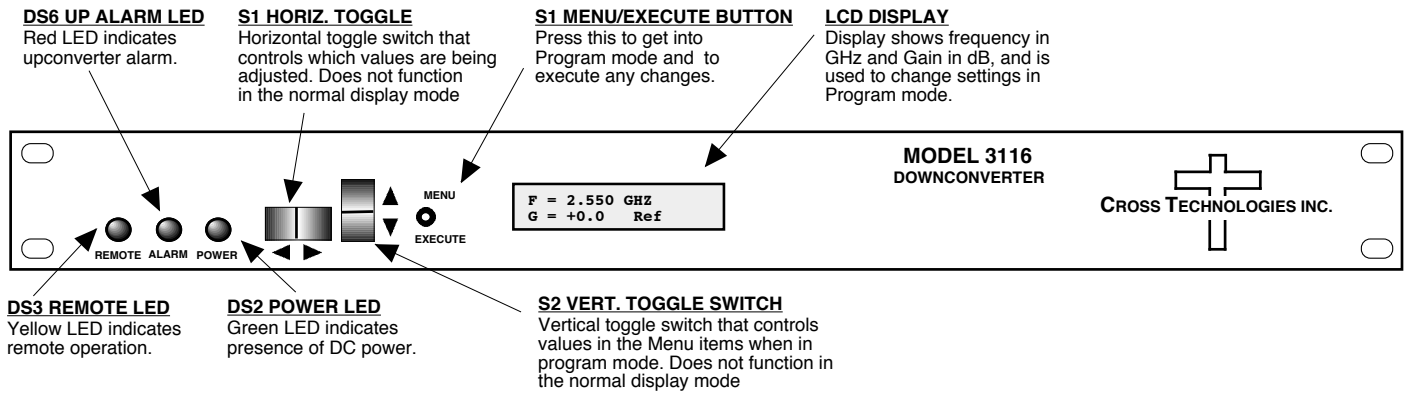

FIGURE 2.2 3116-30#-1200 Front Panel Controls and Indicators
Figure 2.2 shows the front panel controls and indicators.
5. Be sure DS2 (green, DC Power) is on and DS6 (red, Alarm) is off (Figure 2.2).
Alarm indications appear on the LEDs (see Figure 2.2).